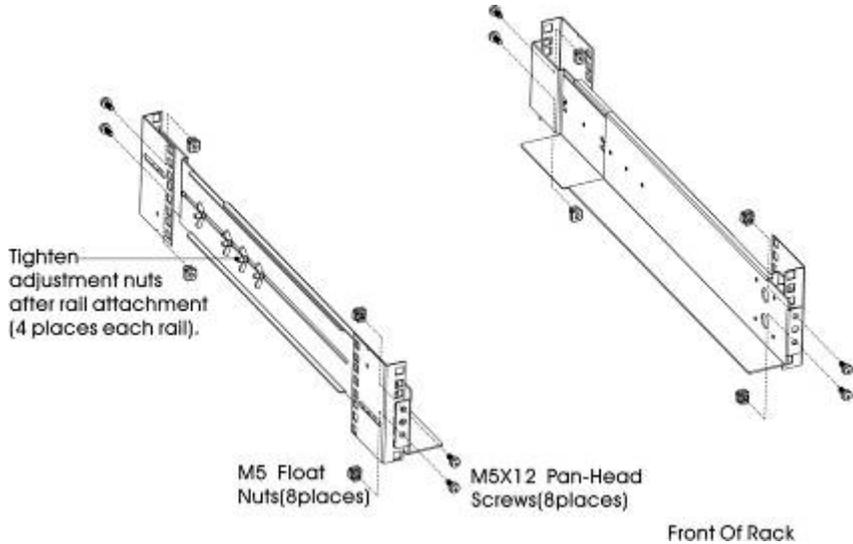

Figure5 Securing the Rails
2. Select the proper size in the rack for positioning the UPS (see Figure 5). The rail occupy four positions on the front and rear of the rack.